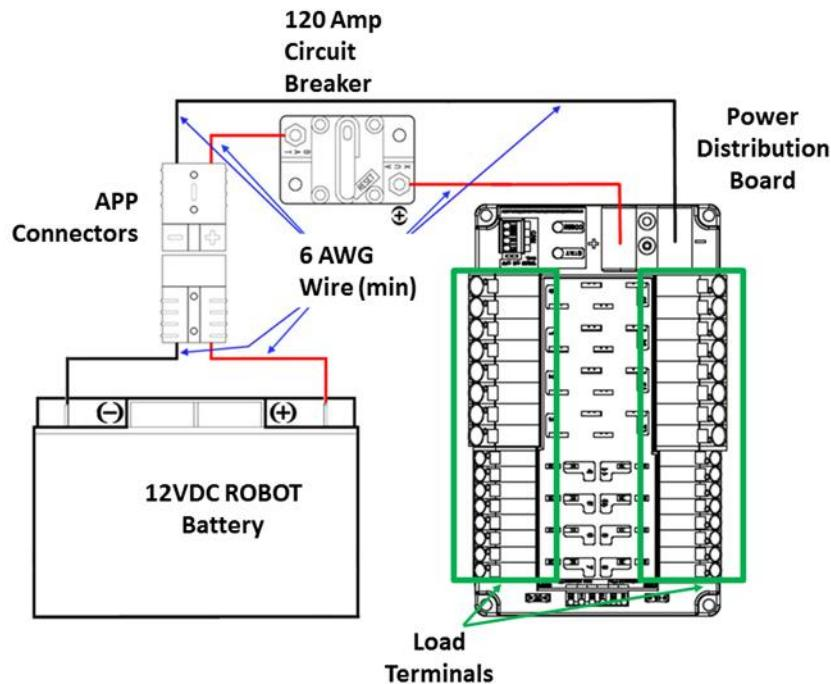

Figure 10-9 Electrical connection diagram
- R47.** The one (1) ROBOT battery, a single pair of Anderson Power Products (or APP) 2-pole SB type connectors, the one (1) main 120-amp (120A) surface mount circuit breaker (Cooper Bussman P/N: CB185-120, CB185F-120, CB285-120), and the one (1) CTR Electronics Power Distribution Panel (PDP, P/N: am-2856, 217-4244, 14-806880) shall be connected with 6 AWG (7 SWG or 16 mm2) copper wire or larger, with no additional devices or modifications, as shown in Figure 10-9.
- R48.** All circuits, with the exceptions of those listed in R53 and R55, must connect to, and have power sourced solely by, a single protected 12VDC WAGO connector pair (i.e. the Load Terminals, as shown in Figure 10-9) of the one (1) CTR Electronics Power Distribution Panel, not the M6 cap screws.